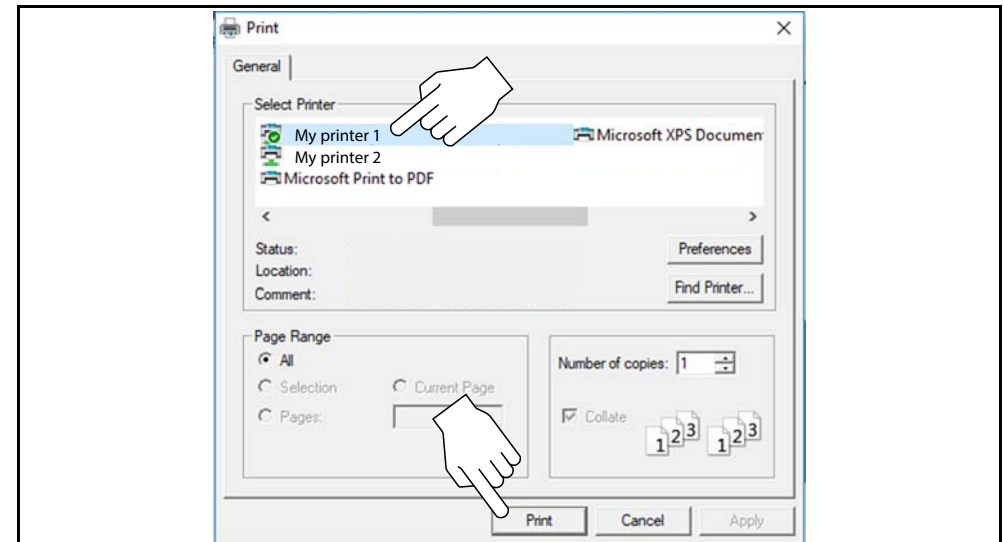

Figure 8-7
3. Selecting **Print** opens the Windows print dialog window (Figure 8-7). Select your printer from the list, then select **Print** to print the report.